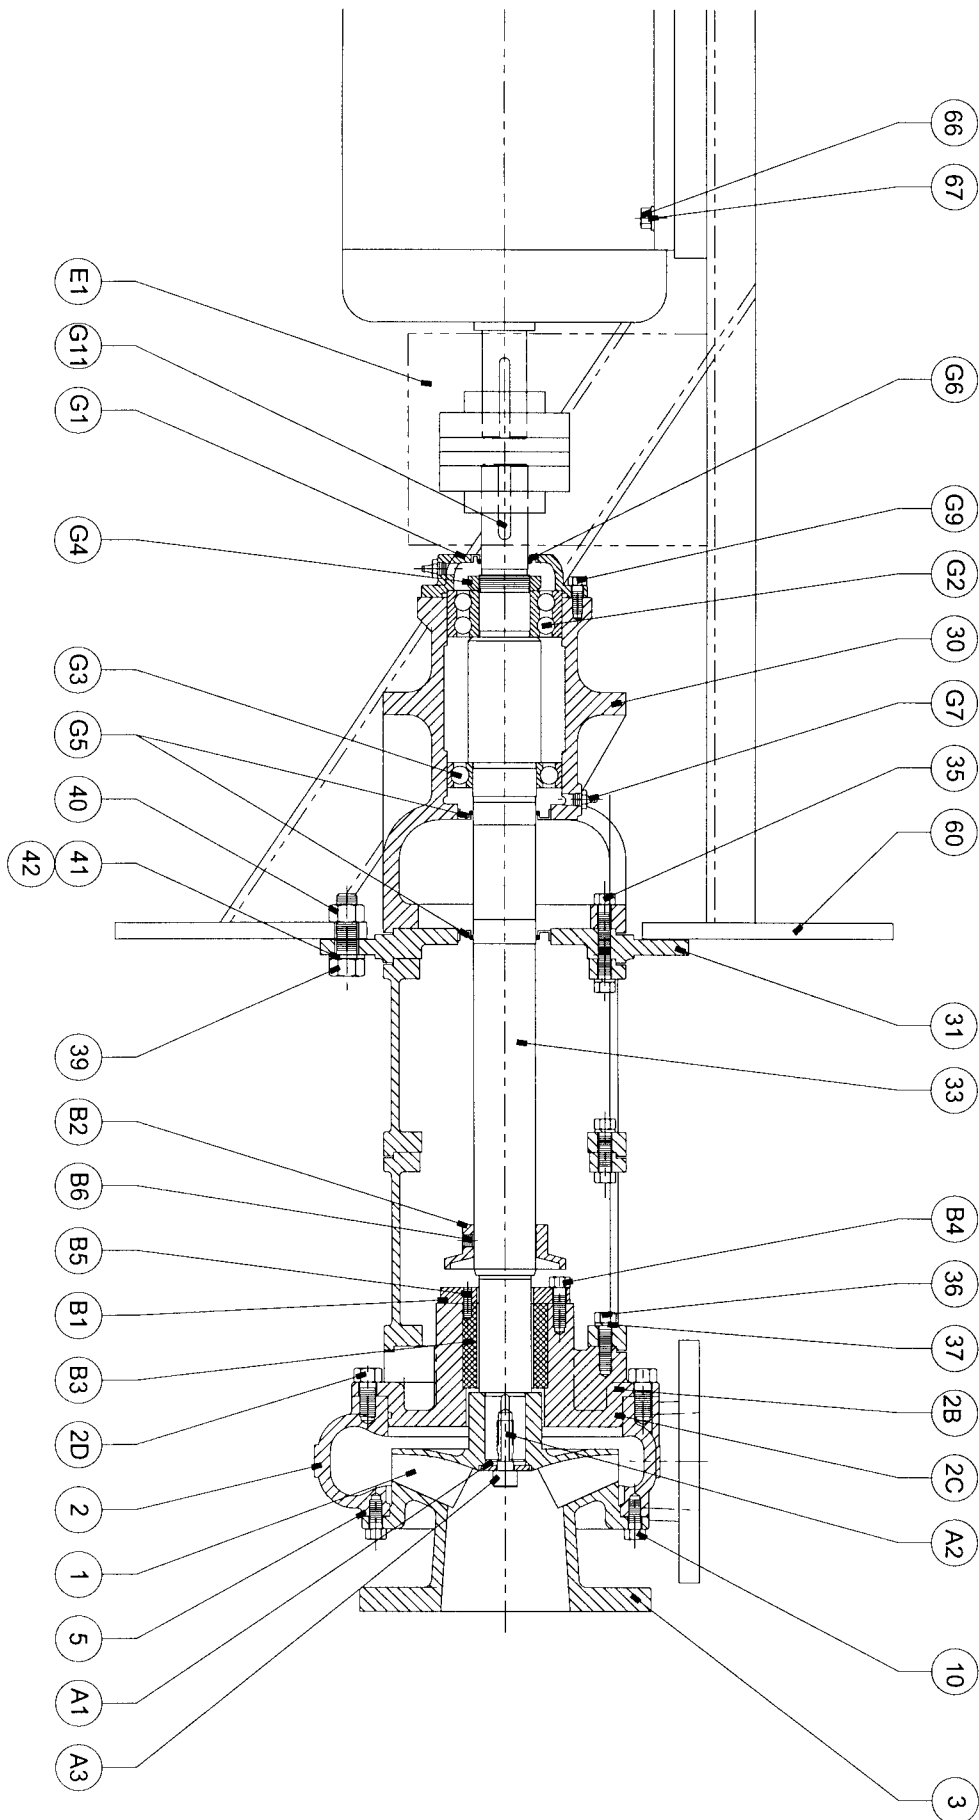

Figure 1. Chair Mount Pump Sectional Drawing
3. Item number from table 5 and figure 1, figure 2 or figure 3.
Refer to table 5 for the parts list of the 12V Frame L&H Pump. For location of parts in the list, refer to figure 1 for chair mount pumps and figure 2 for chair mount units. For additional part options refer to figure 3.
* Not shown on figures 1, 2, or 3.